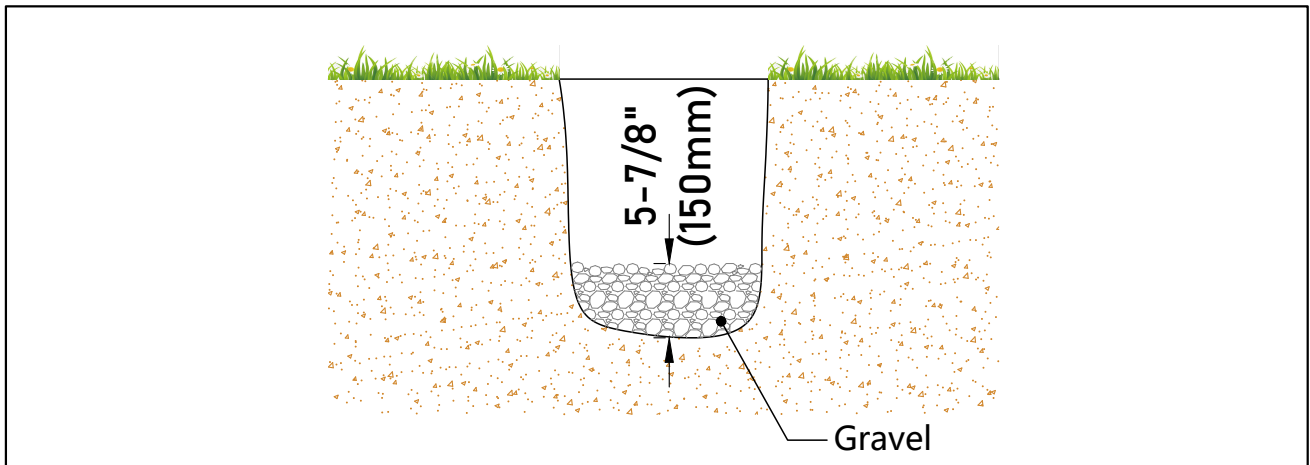

Figure 4
- 4 Lay 5-7/8" (150 mm) of gravel at the bottom of the hole to allow for proper water drainage, as shown in Figure 4.